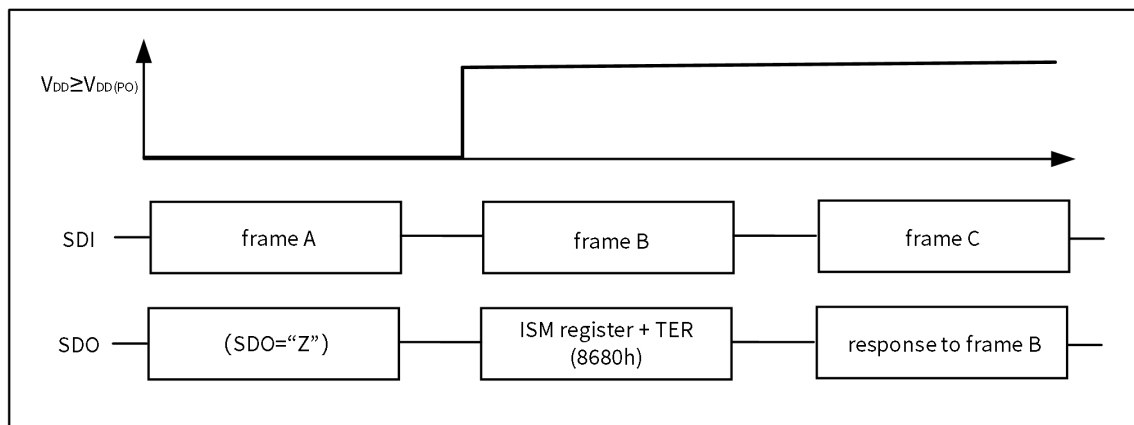

Figure 10.7 NSD56008 response after coming out of Power-On reset at VDD
- when NSD56008 logic supply comes out of Power-On reset condition or after a Software Reset, as shown in **Figure 10.7**